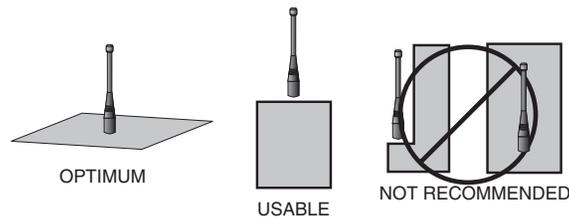

Figure 27: Ground Plane Orientation
2. Optimum performance is obtained from a $\frac{1}{4}$ - or $\frac{1}{2}$ -wave straight whip mounted at a right angle to the ground plane (Figure 27). In many cases, this isn't desirable for practical or ergonomic reasons, thus, an alternative antenna style such as a helical, loop or patch may be utilized and the corresponding sacrifice in performance accepted.